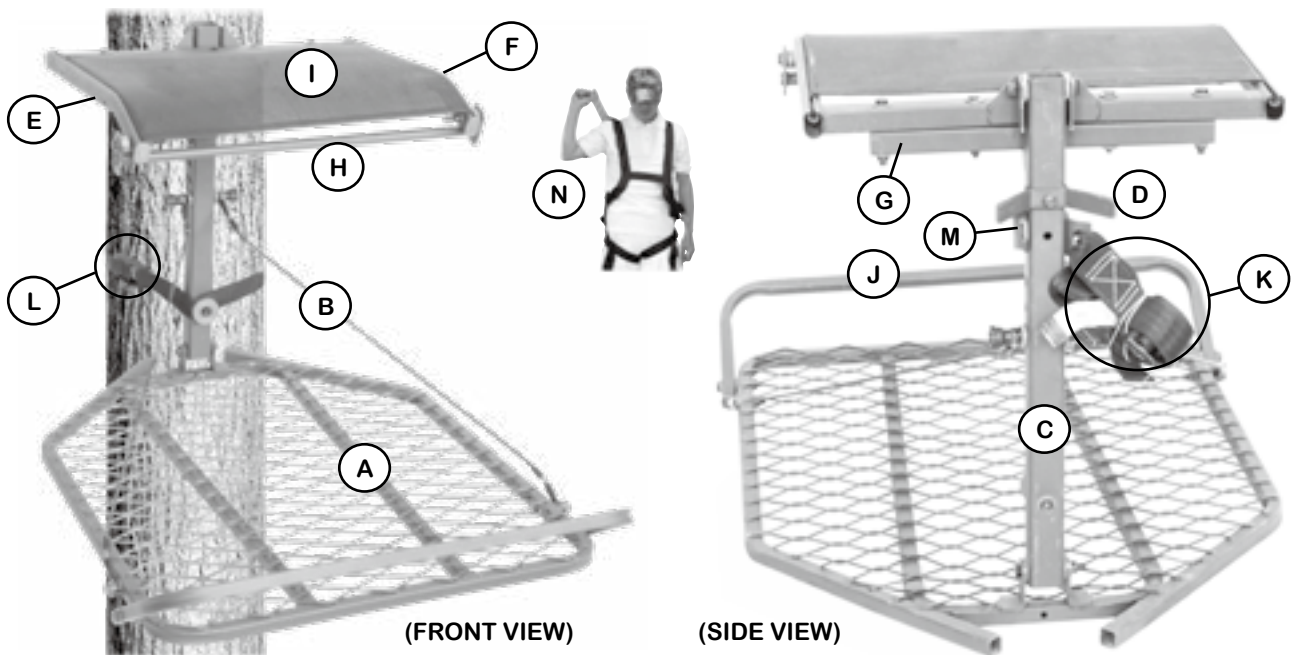
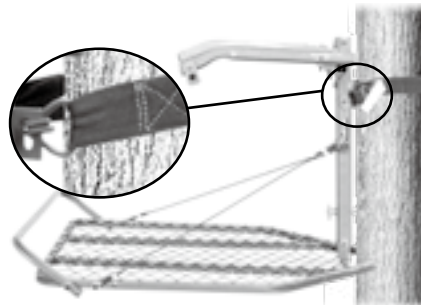
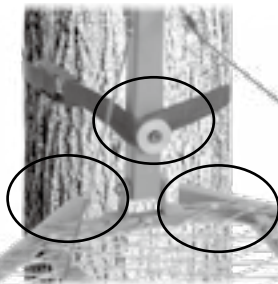
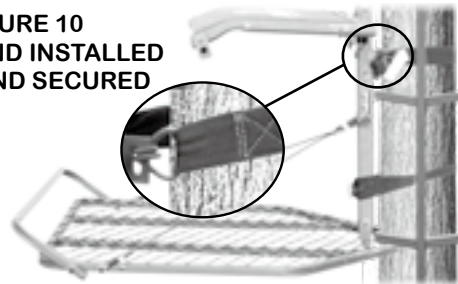

FIGURE 1: RHINO TREESTANDS RTH-100 COMPONENTS
FIGURE 6
FIGURE 9
FIGURE 10
WARNING! Inspect the strap thoroughly prior to each use. Insure the pre-sewn tab end and Hook Tab are properly attached and secured. When hook is inserted into the Hook Tab, the hook end must be pointed AWAY FROM THE TREE as shown in Figure 6 & 10 for properly attaching and securing Upper Cinch Belt Hook Strap.
STEP 6: With the Upper Cinch Belt Hook Strap (K) previously installed and the treestand at the desired height, wrap the hook end of the strap around the tree and engage the hook into the Hook Tab. **Refer to Figure 6 & 10** for properly engaging the hook into the Hook Tab. Pull the loose end of the belt strap until seated firmly against the tree. **IMPORTANT:** Tie off the remaining strap securely to prevent the strap from working loose **as shown in Figure 10**.
STEP 7: With the upper cinch belt hook strap (K) installed as previously outlined, locate the platform stabilizing strap (L) (refer to Figure 1). Pre-thread the platform stabilizing strap into the button **as shown in Figure 9**. Then place both looped ends over the knob. After threading in accordance with Figure 10, tighten the strap by pulling on the loose end **as shown in Figure 10**. Once the platform stabilizing strap (L) is tight, check to make sure the tree connection brace (D) is firmly seated against the tree trunk. Tie off the loose end of the platform stabilizing strap (L) to reduce the possibility of it working loose as shown in Figure 10. In addition, check to make sure the standing platform is firmly seated against the tree trunk **as shown in Figure 10**. Make certain the treestand is installed level without any lean. If the treestand is installed in a not level fashion, you must remove it and find another installation location that affords a perfectly level installation.
STEP 8: With your treestand installed in the strict manner outlined herein (**refer to Figure 10**), and while still attached to the tree with your full-body fall arrest harness lineman's belt, attach the tether of the full-body fall arrest harness to the tree trunk at a location as high up as you can install it (i.e., eye-level or higher preferably). Both the lineman's belt and tether of the full body fall arrest harness shall be attached. Disconnect lineman's belt and climb above standing platform on the climbing aid and step down onto the center of the standing platform with one leg. If there is any looseness, step off the treestand and back onto the climbing aid. Disconnect the treestand and repeat the previous installation steps until a solid installation is achieved.